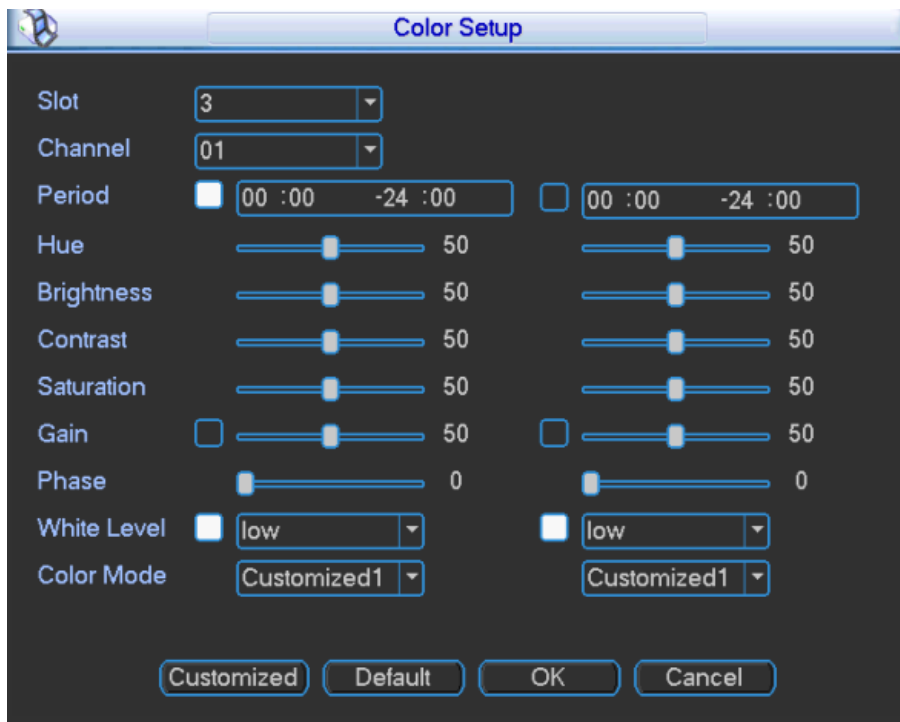

Figure 3-64
Step 1 Click "Color Setup". The system displays "Color Setup" interface, as shown in Figure 3-64.